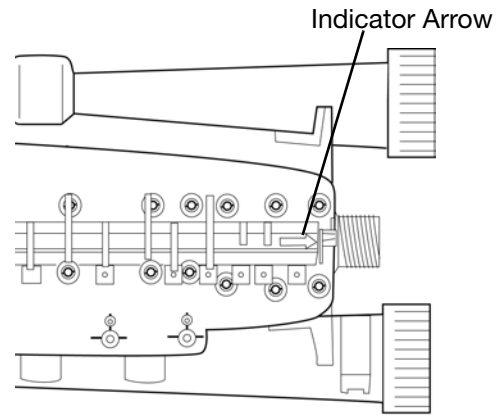

Figure 11
3. Align the indicator arrow on the rear of the camshaft with the top of the rear hoop of the top plate (Figure 11).